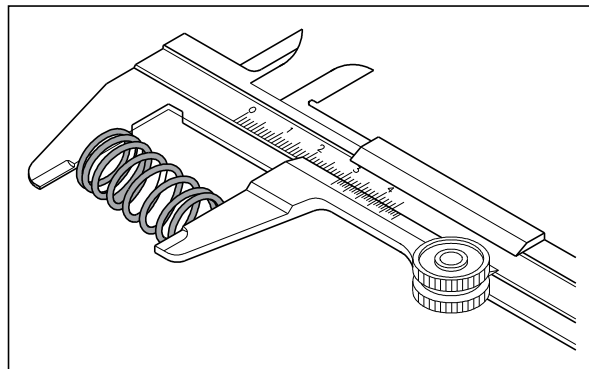

Fig. 3.72
- Measure the free length of the valve springs. If the length is smaller than the service limit, replace the springs. (Fig. 3.72)